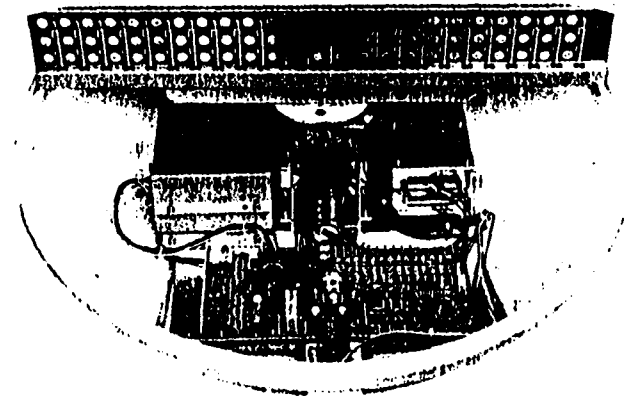

FIG. 5-6 REPLACEMENT OF DRIVE MOTOR
- (6) Drive motor M 101 (See Fig. 5-6)